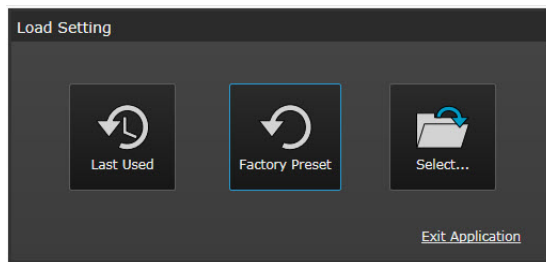

Figure 17 Load Settings screen
- 3 When the **Load Settings** screen appears as shown in Figure 17 on page -49, load the last used, factor preset, or new settings.